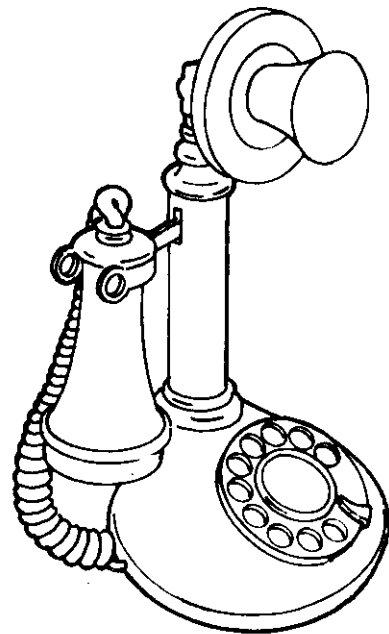

Figure 3. Candlestick Telephone.
2.07 The Candlestick telephone set (Figure 3) resembles the old upright telephone set. The base is approximately six inches in diameter, and the overall height is approximately 12 inches. The housing is of molded plastic and the trim is brass plated molded plastic. Three models are available and differ only in color of the housing: